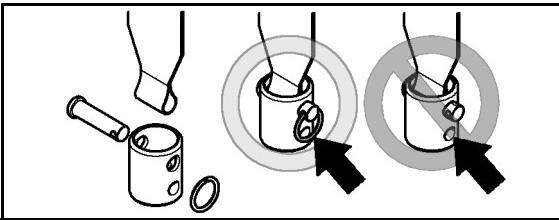

Fig. 7
- 2) Move the ceiling lift directly over the patient. With the four-function model, use the left and right buttons on the handset (see Fig. 7). With the two-function model, simply hold the ceiling lift's spreader bar and drag it along the track.
Also make sure that the spreader bar is correctly attached to the ceiling lift. See Fig. 7 below.